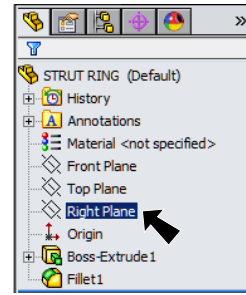
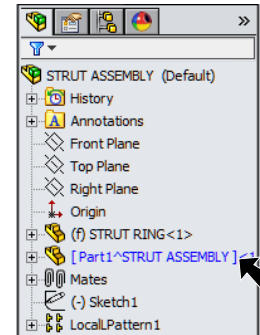

Fig. 1
Fig. 2
- Step 3. Click **Right Plane**  in the Feature Manager, **Fig. 1** and **Fig. 2**.